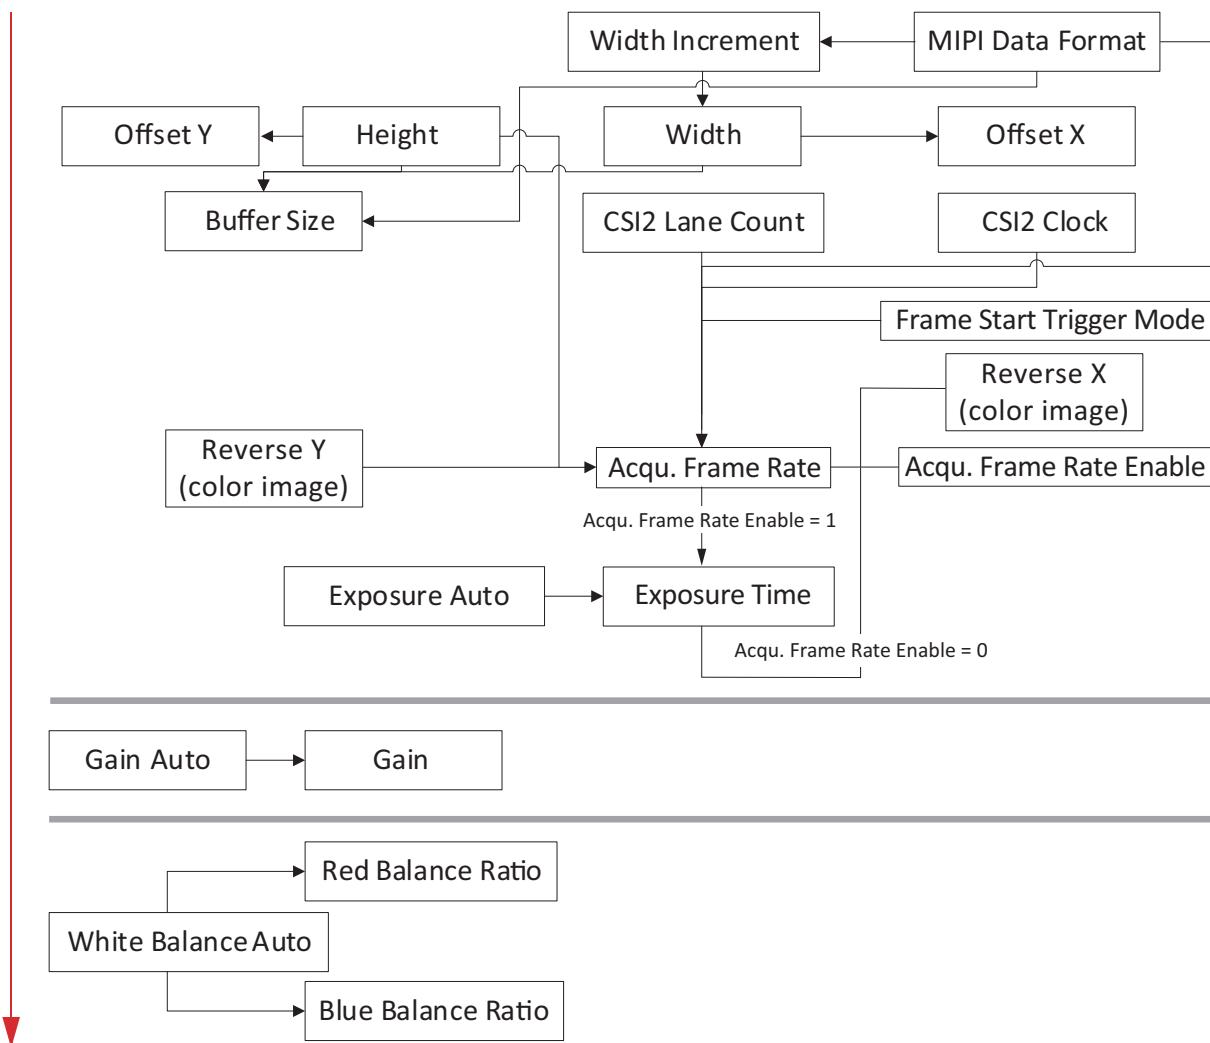

Figure 68: Interdependencies between controls
The conversion between time and clock cycles affects control values. Controls for pixel format, bandwidth, cropping (ROI), and exposure time are related to each other. Changing values for one control can change values for another control. For example, frame rates can be reduced when **MIPI Data Format** is changed subsequently. Figure 68 shows the interdependencies.
- To avoid readjustments, apply settings in the order shown in Figure 68.